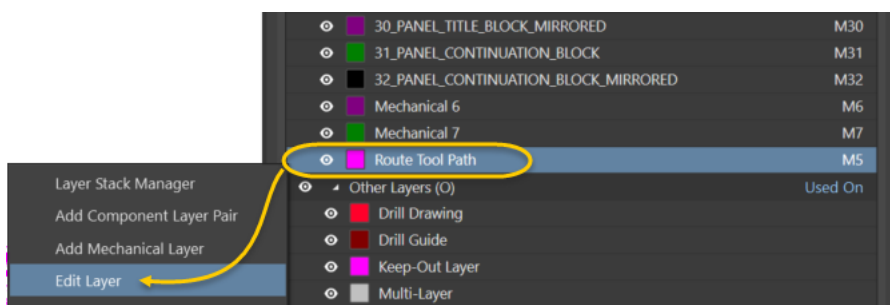

Figure 6. Edit Route Tool Path layer
15. In the *Mechanical Layers (M)* section, right-click on the *Route Tool Path* layer name and select **Edit Layer** as shown in Figure 6.